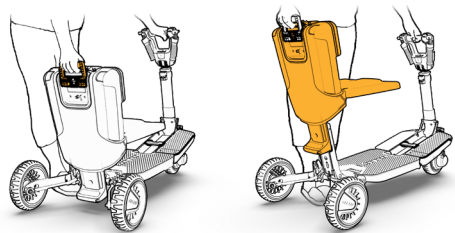

Figure 15
12. Continue using the handle to pull up the chair until it clicks and locks in place (see Figure 15).